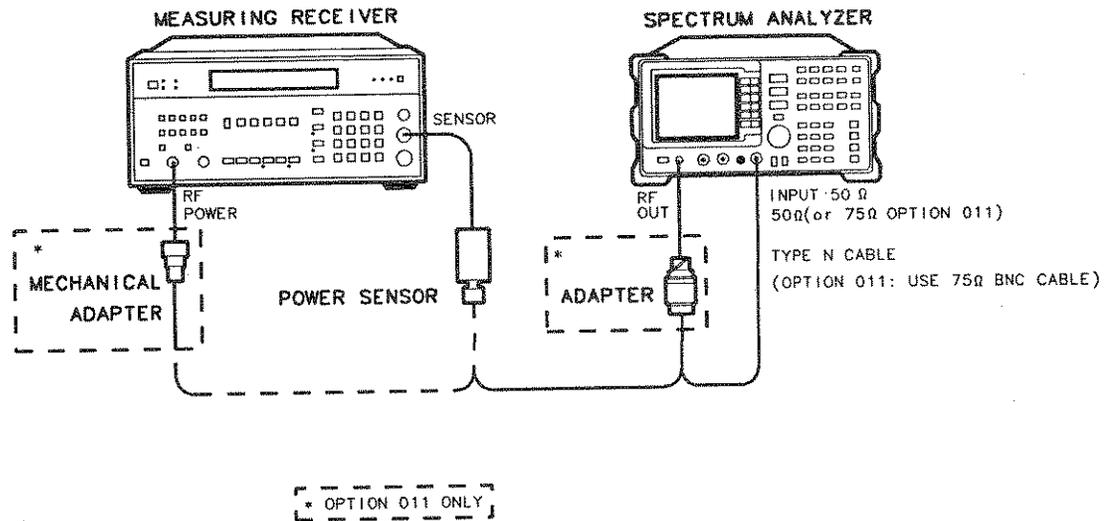

Figure 3-26. Absolute Amplitude, Vernier, and Power Sweep Accuracy Test Setup
1. Connect the Type N cable between the RF OUT 50 Ω and INPUT 50 Ω connectors on the spectrum analyzer. See Figure 3-26.
6. Disconnect the Type N cable from the RF OUT 50 Ω and connect the power sensor to the RF OUT 50 Ω as shown in Figure 3-26.